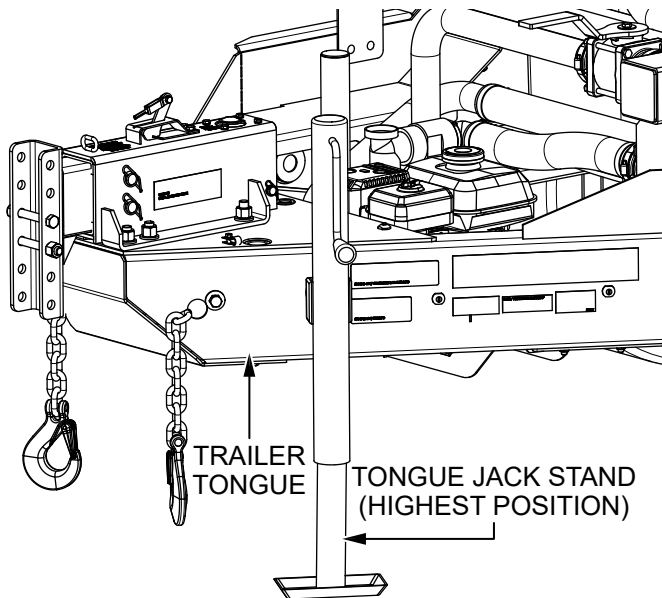

Figure 24. Raise The Trailer Tongue
2. Place the unit on a level surface and raise the **trailer tongue** by placing the **tongue jack stand** in the highest position (Figure 24).